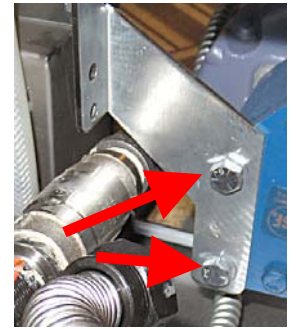

Figure 17
20. Use a 1/2" wrench to remove the two (2) bolts securing the filter pump bracket to the filter pump (see Figure 17). Discard the bracket.